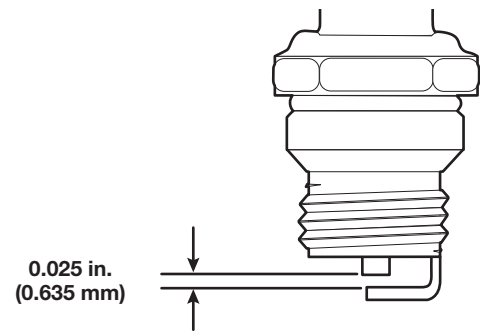

Fig. 28
4. Use a feeler gauge to set the air gap at **0.025 in. (0.635 mm)** (Fig. 28).